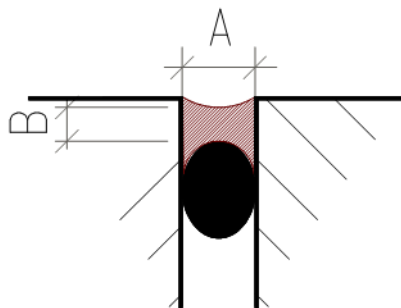

FIGURE 2 Joint width (A) and joint depth (B) of a sealant joint (sealant marked in red)
Joint width (A) (see Figure 2)	between 6 mm and 45 mm